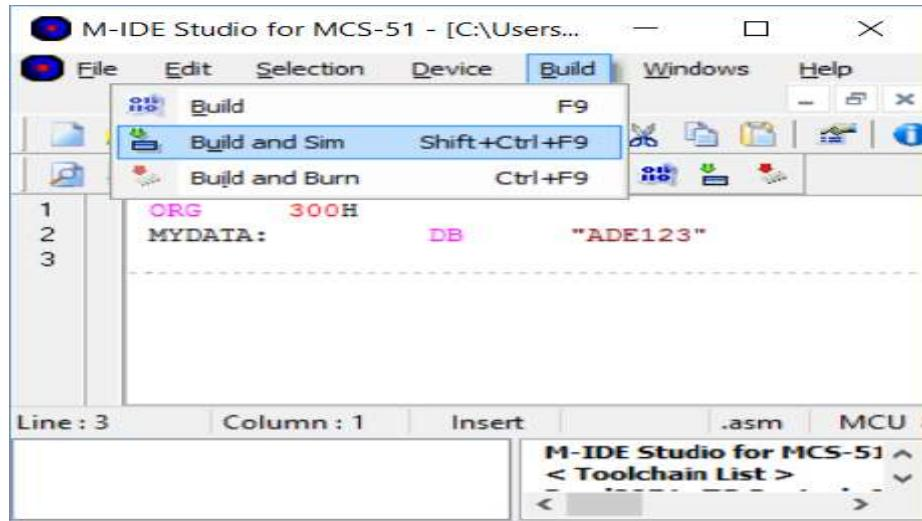

Figure 4.3: Building and Simulating the Code in MIDE-51
- c. Save the file as **exp4.asm**. Then build and simulate as shown in Figure 4.3.